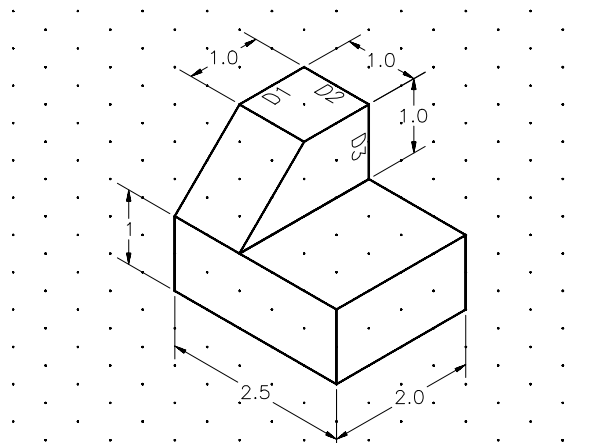
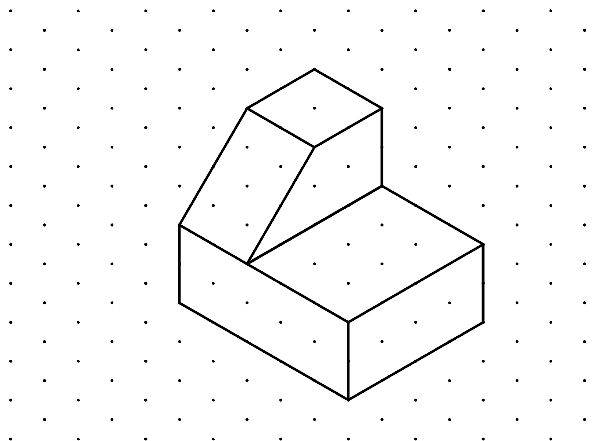

Figure 23-8 Isometric drawing for Example 1
Figure 23-13 Isometric drawing with the tapered face
In this example, you will create the isometric drawing shown in Figure 23-8.
6. The front left end of the object is tapered at an angle. In isometric drawings, oblique surfaces (surfaces at an angle to the isometric axis) cannot be drawn like other lines. You must first locate the endpoints of the lines that define the oblique surface and then draw the lines between those points. To complete the drawing, shown Figure 23-8, draw a line from P10 to P8 and from P11 to P4, see Figure 23-13.